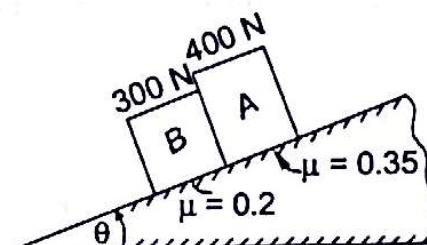

Fig. 6.22
6.4 Two blocks A and B of weights 400 N and 300 N respectively rest on an inclined plane. The coefficient of friction between block A and plane is 0.35 and that between block B and plane is 0.2. The angle of inclination of the plane is increased gradually. At what angle θ , blocks A or B or both start sliding down the plane. Refer to Fig. 6.22.